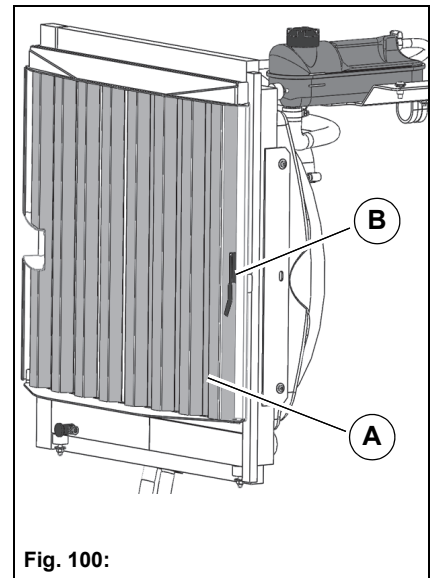

Fig. 100:
2. Open the grille sieve **Fig. 100-A** with the catch **Fig. 100-B**.